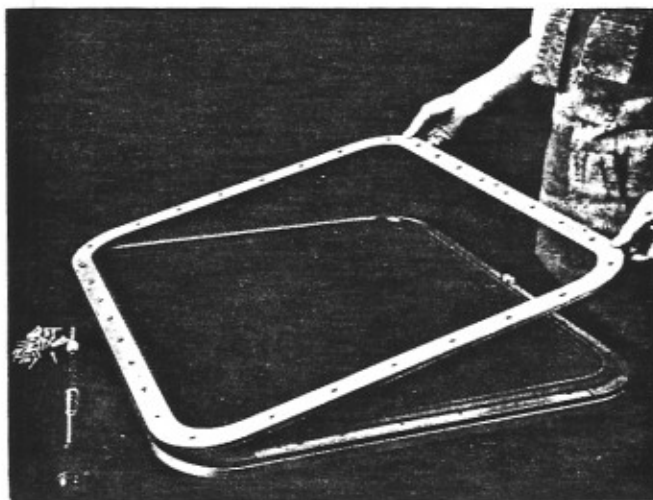

Figure 133
4. Lift off upper half of frame. (See Figure 133)